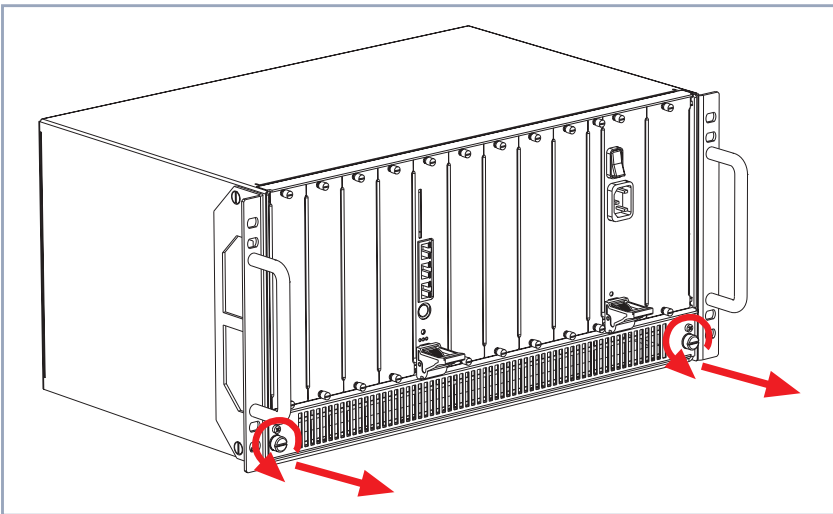

Figure 1-1: Loosening the screws and removing the fan cassette
- ▶ Loosen the two big knurled screws of the fan cassette by turning the screws to the left until they pop out of their position, see figure 1-1, page 16.
- Using the two screws you unfastened on the fan cassette (see figure 1-1, page 16), fasten the fan cassette to the **X8500** case by pressing and turning the screws to the right.